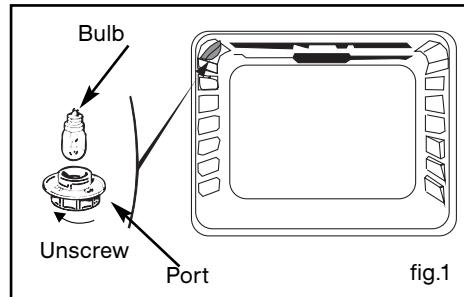

fig.1
- b) Unscrew the lighting port (fig.1).